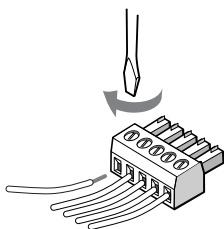

Figure 2-14 — Fastening captive screws
2. Attach the audio cable to the audio cable connector (Extron part number 10-319-10). Fasten the captive screws inside the audio cable connector as shown in figure 2-14.
- Attach the audio cable to the audio cable connector (Extron part number 10-319-10). Fasten the captive screws inside the audio cable connector as shown in figure 2-14.